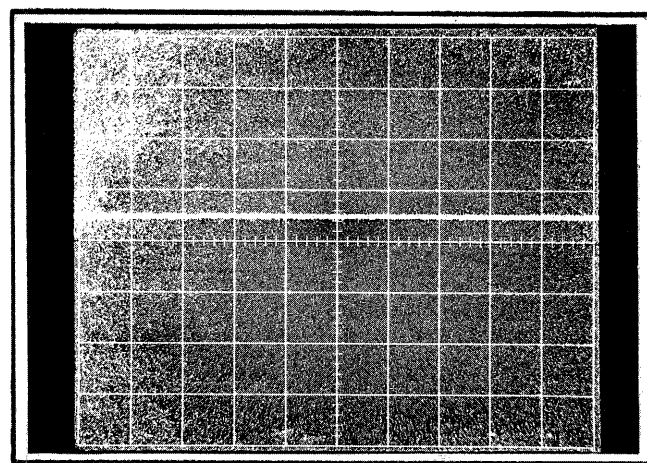

Fig. 5-27. Typical CRT display showing correct adjustment of R373, Enhance (amplitude).
- e. Alternately store and erase single sweeps of the trace while adjusting R373 clockwise in small steps. Continue adjusting R373 until the enhance pulses cause portions of the screens to start fading positive and the trace just begins to spread into the background. (See Fig. 5-27.)